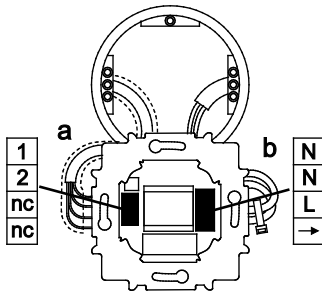

Fig. 2: Relay insert 1539 U
3. Bundle the wires of the mains cable (230 V) with the cable binders included in the scope of supply (Fig. 2: b).
4. Push the low-voltage lines through the insulating tube included in the scope of supply (Fig. 2: a).